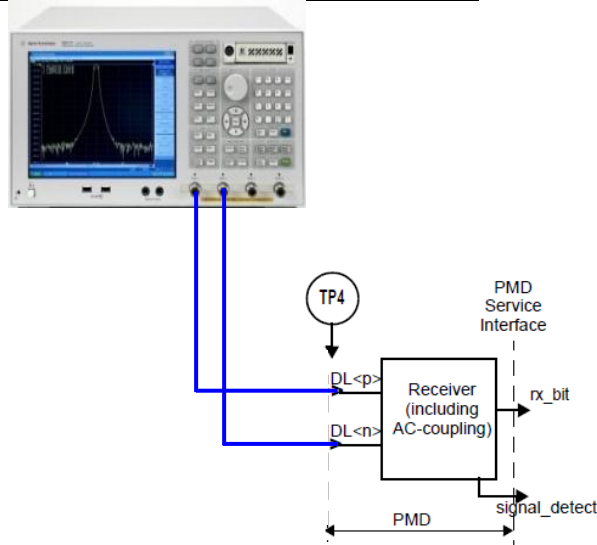

Figure 5-2 Differential Input Return Loss (Rx) Test Setup
1. Connect the DUT's receiver to the E5071C with the RF cables (Figure 5-2).